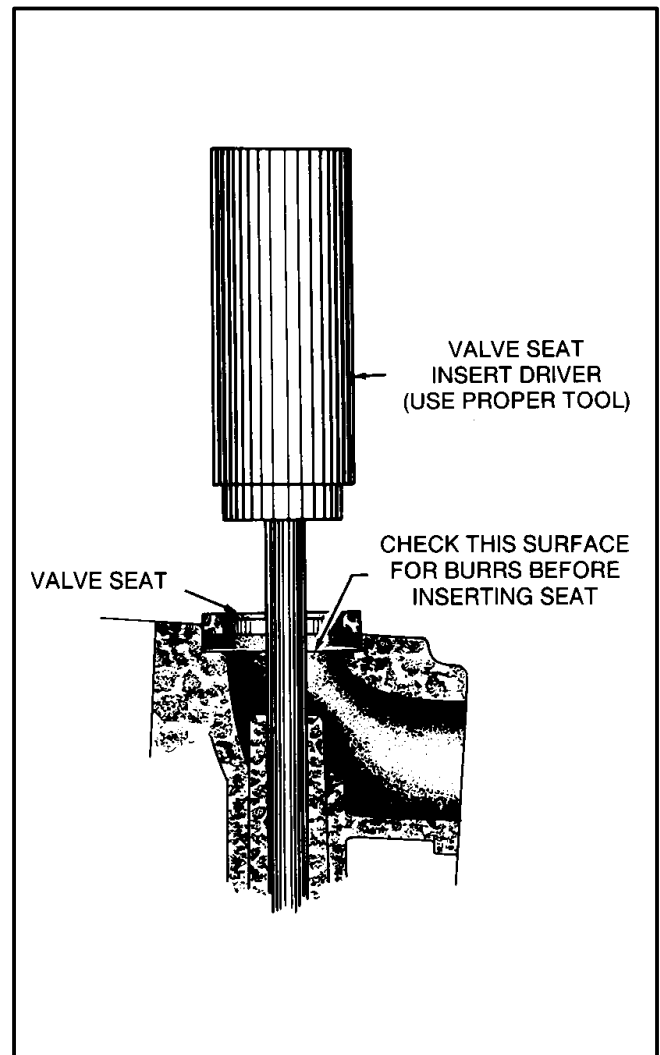

FIGURE 10-6. INSERTING NEW VALVE SEAT
3. Use a valve seat insert driver and hammer to install the insert (see Figure 10-6).